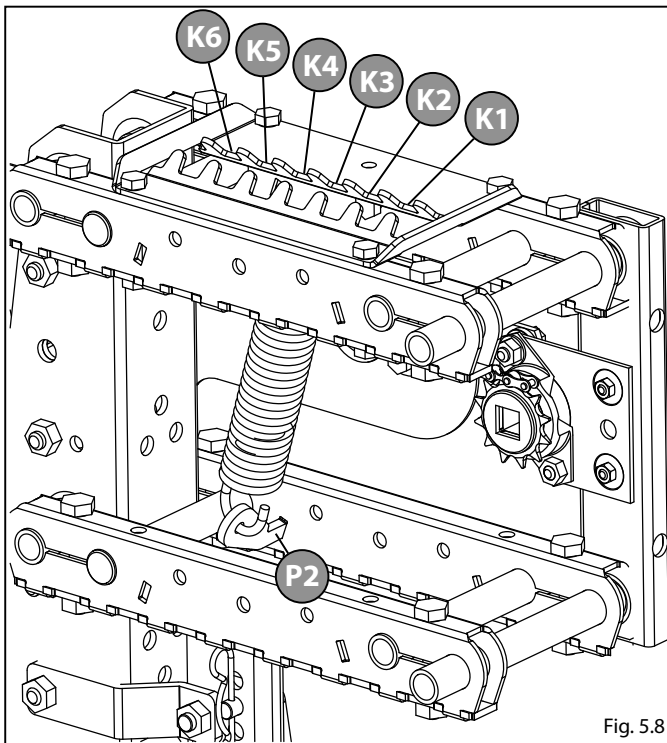

Fig. 5.8
- The selector shall be mounted after the disc in the bolts (Fig.5.8) and shall look as if it were attached to the disk.